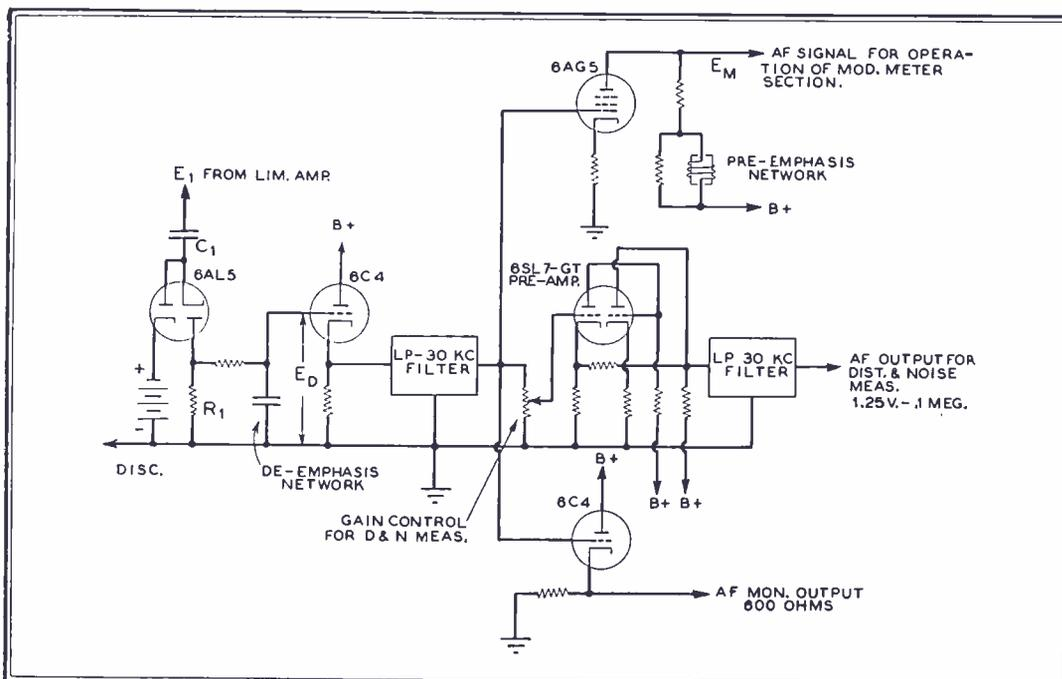

FIG. 8. THE AUDIO SYSTEM IS DIVIDED INTO 3 SEPARATE CIRCUITS, AS SHOWN HERE
**Audio System** ★ The entire audio system is coupled to the discriminator by a standard 75-microsecond de-emphasis network. This reduces the reactance load across the discriminator to improve the linearity, and is an effective low-pass filter which attenuates the pulse repetition frequency and its harmonics. This is followed by an impedance-transforming amplifier and a low-pass filter section which provides a uniform frequency-response up to 30 kc. At this point, the audio system divides into three separate circuits, as in Fig. 8.